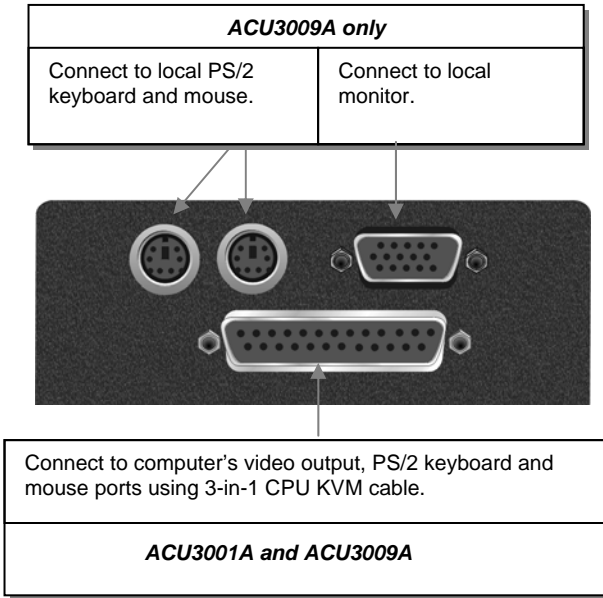
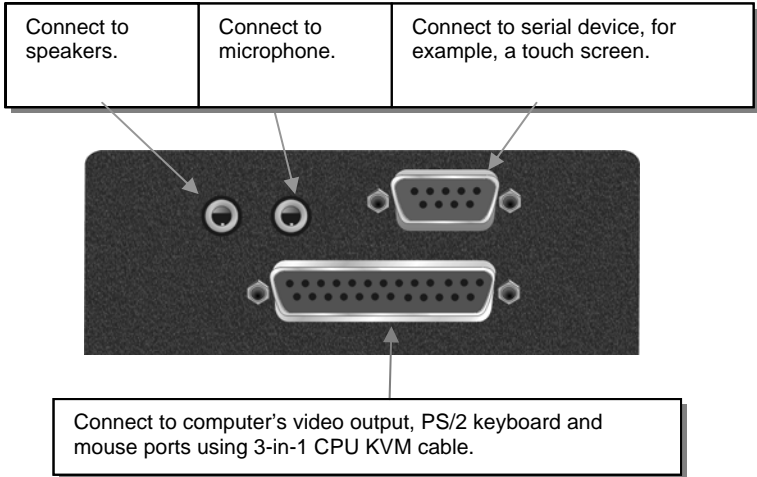

Figure 5 **ACU3001A and ACU3009A Local Units - rear view**
Figure 6 ACU3022A Local Unit - rear view
2. Using the supplied CPU KVM cable(s), connect the keyboard, monitor(s) and mouse connectors on the computer (or KVM switch) to the corresponding connectors on the Local Unit as shown in Figure 5 (Standard) and Figure 6 (Audio/Serial).